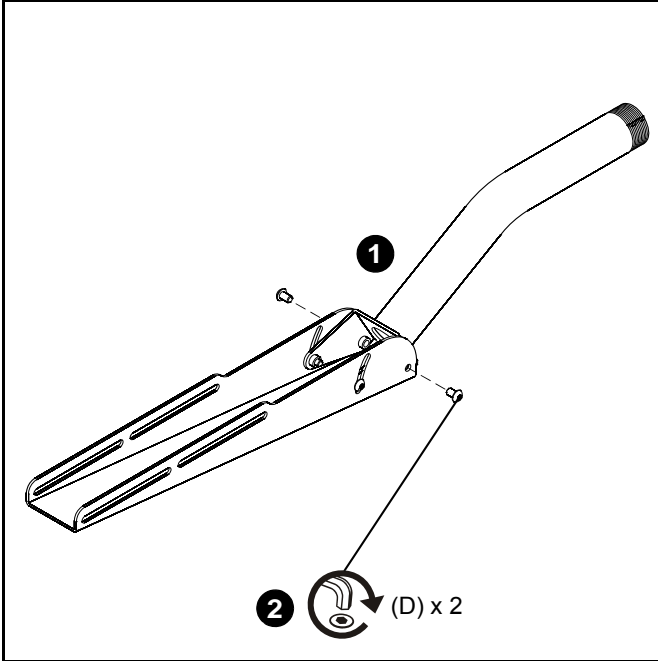

Figure 2
1. Fold tube out until tube mounting bracket rests against faceplate mounting bracket. (See Figure 2)
2. Secure tube to faceplate mounting bracket using 3/16" hex wrench (C) and two 5/16-18 x 1/2" button head cap screws (D).